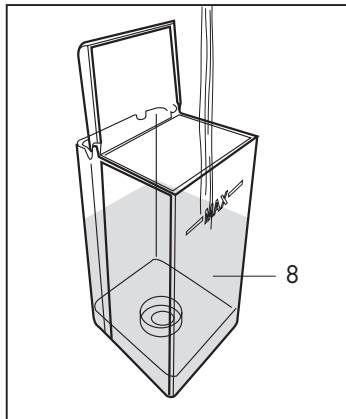

Fig. 2
- Fill the tank with water to maximum level 2.5 litres. **(Fig.2)**